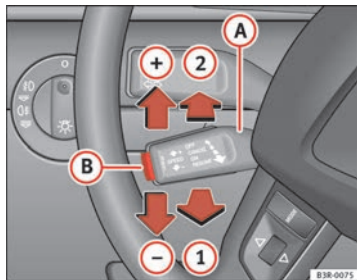

Fig. 140 Controls for the cruise control system
- Pull the lever **A** to position $\Rightarrow$ fig. 140 **1** to activate the system.
- Move the lever **A** up towards $\Rightarrow$ fig. 140 **+**.
- Move the lever **A** down towards $\Rightarrow$ fig. 140 **-**.
- You can increase the set speed in steps of 2 km/h by briefly pressing the lever **A** up towards $\Rightarrow$ fig. 140 **+**.
- You can decrease the set speed in steps of 2 km/h by briefly pressing the lever **A** down towards $\Rightarrow$ fig. 140 **-**.
If no speed was stored when the system was temporarily disabled, a new speed can be set as follows: drive at the desired cruising speed and briefly press button ⇒ page 175, fig. 140 **(B)** (SET).
- Move lever **(A)** ⇒ page 175, fig. 140 to position **(2)** (click stop engaged).